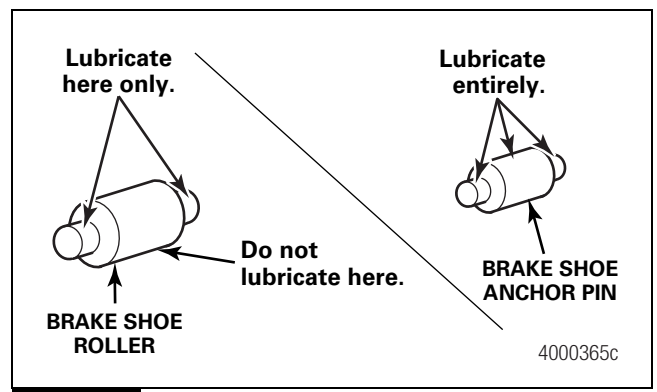

Figure 3.18
1. Use the appropriate Meritor-approved grease to lubricate the brake shoe roller and anchor pin. Refer to Section 11. Figure 3.18.